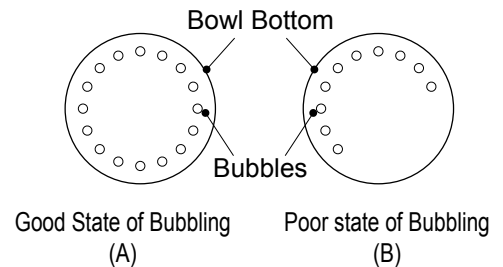

Fig. S-1
- a. If the bubbling state is such that bubbles occur evenly around the bottom of inner bowl as shown in Fig. S-1(A), the inner bowl is satisfactorily in contact with the heating plate.
Where bubbles do not occur more than 1/3 of the bottom periphery as shown in Figure S-1(B), contaminant deposits on the heating plate or deformation on the inner bowl may be existing.